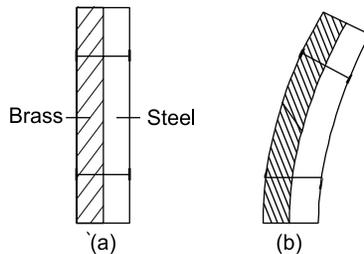

Figure 21.1
- (v) The amount of expansion varies with different materials. Figure 21.1(a) shows a bimetallic strip at room temperature (i.e. two different strips of metal riveted together – see Section 2.12, page 33). When heated, brass expands more than steel, and since the two metals are riveted together the bimetallic strip is forced into an arc as shown in Figure 21.1(b). Such a movement can be arranged to make or break an electric circuit and bimetallic strips are used, in particular, in thermostats (which are temperature-operated switches) used to control central heating systems, cookers, refrigerators, toasters, irons, hot-water and alarm systems.